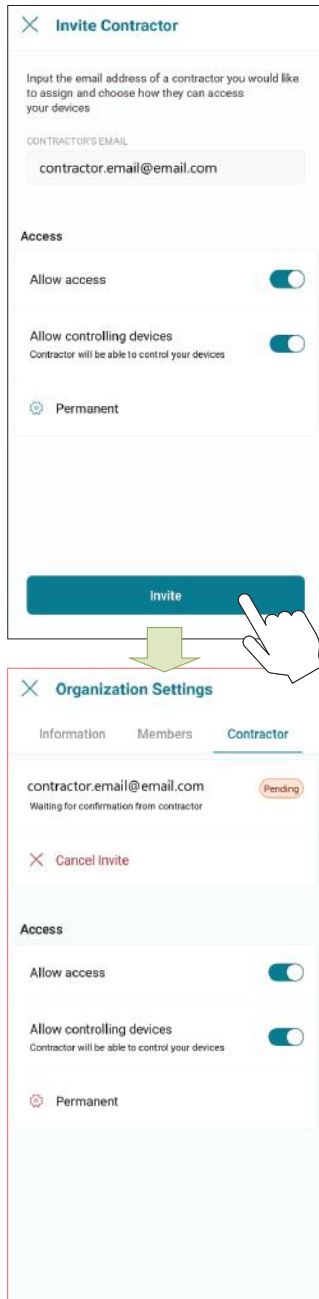

Figure 114. Send the Invite
- When ready, press **[Invite]**. An invitation/request will be sent to the contractor’s Raymote account. See Figure 114.